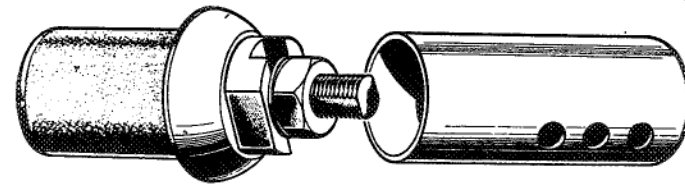

Fig. 8. Guide for suction and pressure relief valve connection
#### Assembly of front fuel tanks (fig. 8, 9 and 10)
- (1) For ease of installation, the outer surface of the tank should be dusted with french chalk.
- (2) Ensure that the tank bay is clean, free from all foreign matter, nuts, washers, etc.
- (3) The suction and pressure relief valve connection and vapour release valve connection must each be fitted with a guide (Part No. A.194464, fig. 8).
- (4) All sealing rings and sealing washers must be examined for serviceability prior to use.